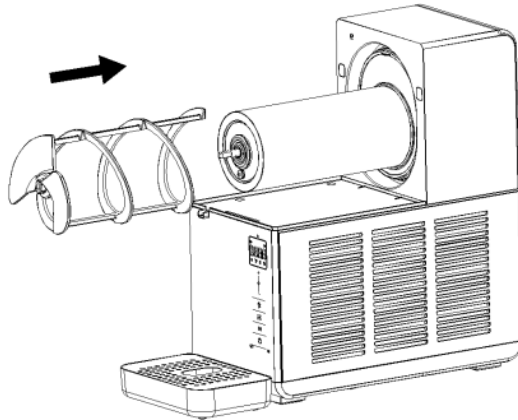

Fig.17
5. The mixing blade are installed on the evaporator, and the shaft hole passes through the mixing shaft (as shown in Figure 17).